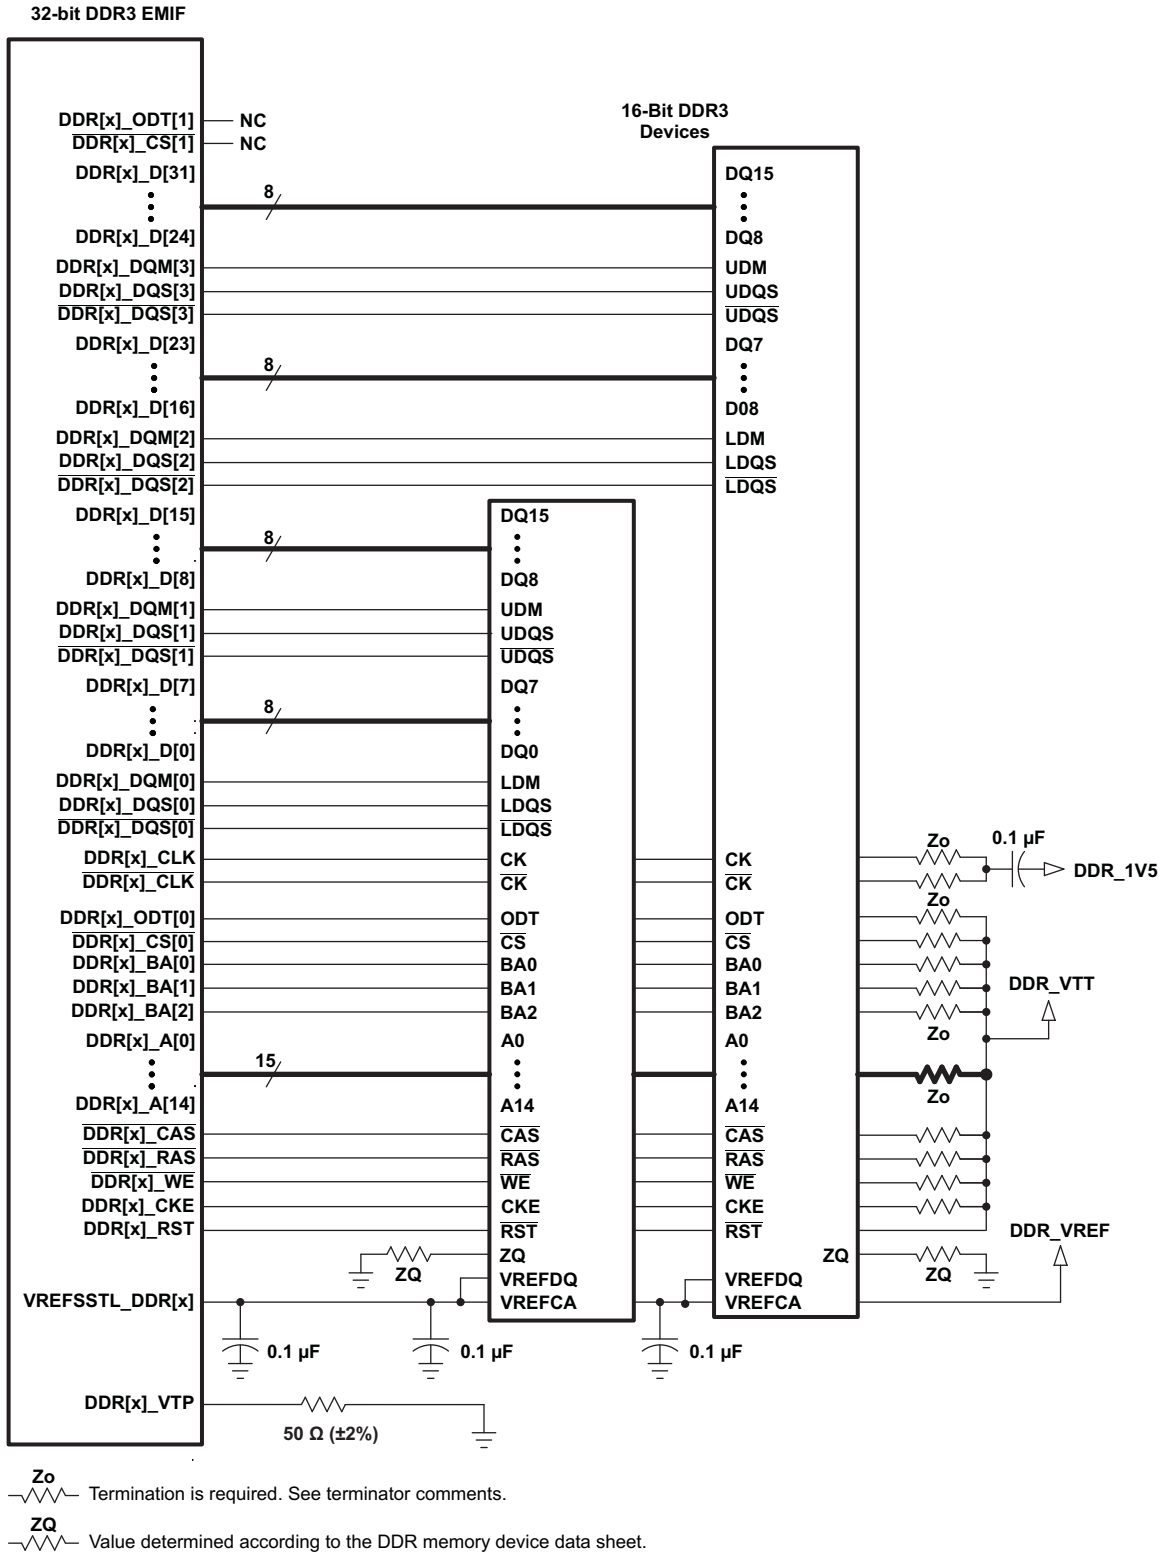
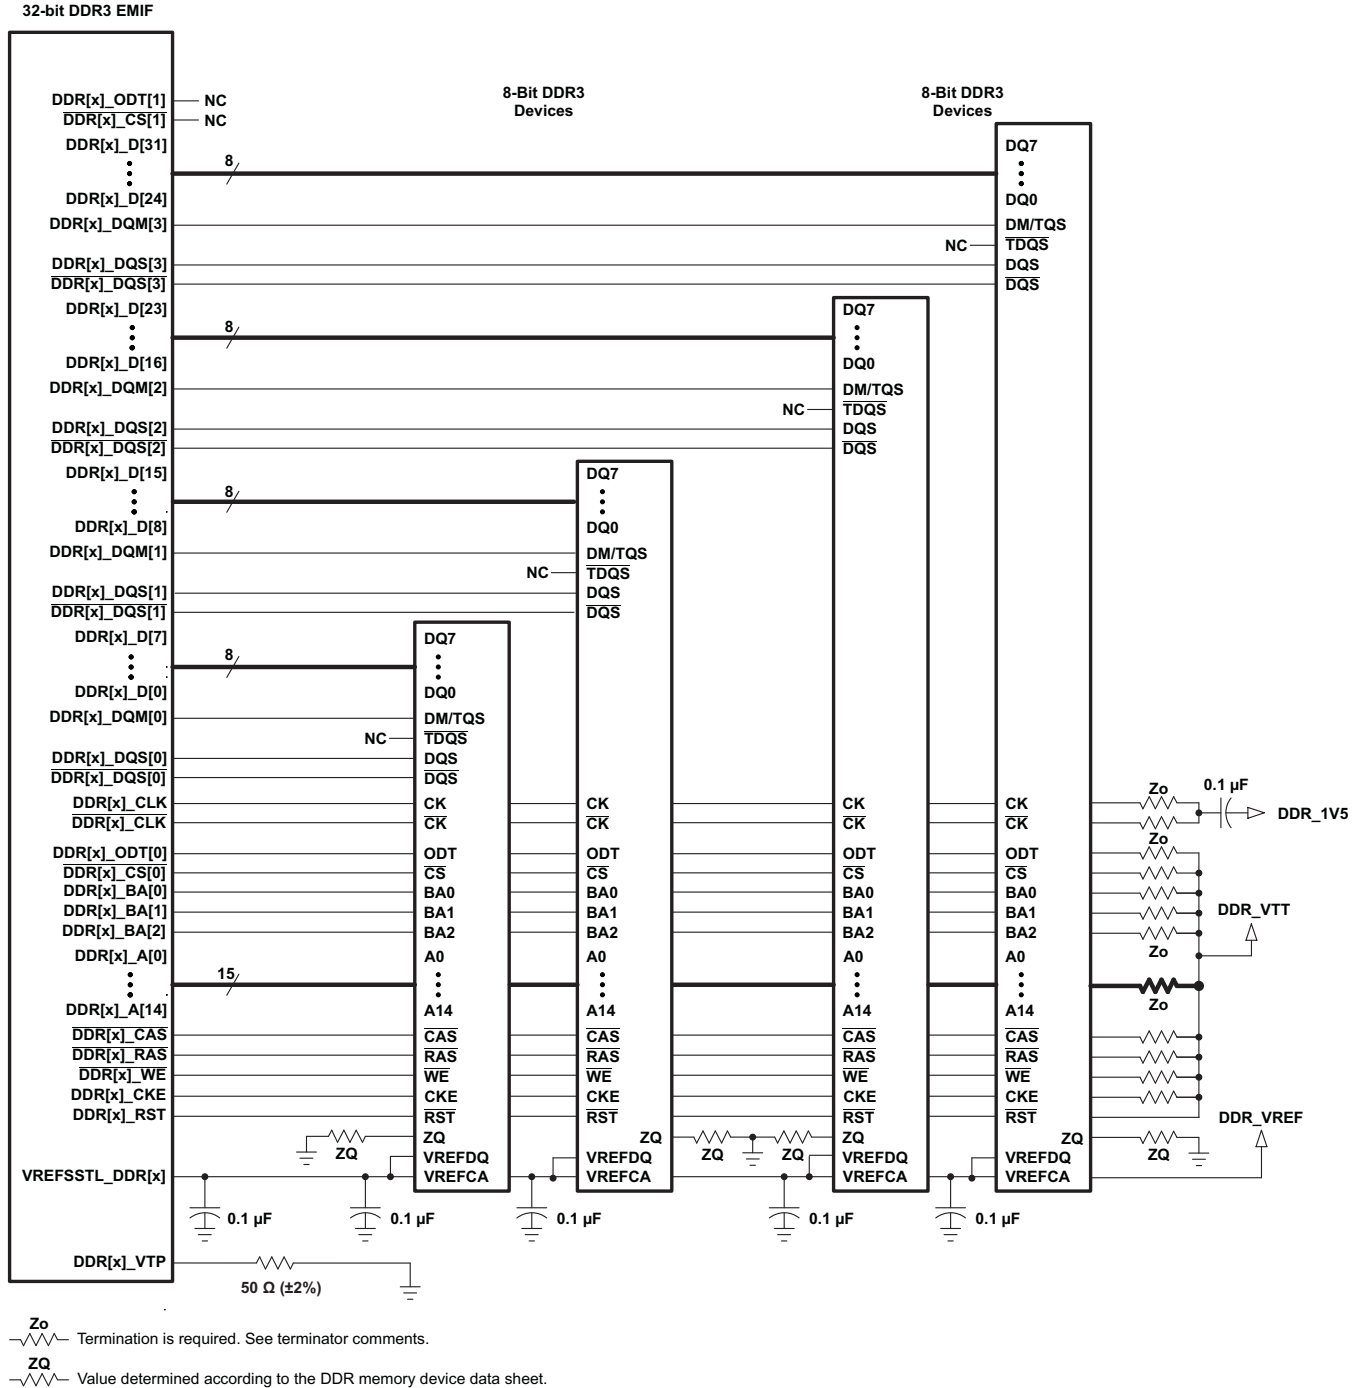

Figure 8-54. 32-Bit, One-Bank DDR3 Interface Schematic Using Two 16-Bit DDR3 Devices
Figure 8-55. 32-Bit, One-Bank DDR3 Interface Schematic Using Four 8-Bit DDR3 Devices
The DDR3 interface schematic varies, depending upon the width of the DDR3 devices used and the width of the bus used (16 or 32 bits). General connectivity is straightforward and very similar. 16-bit DDR devices look like two 8-bit devices. Figure 8-54 and Figure 8-55 show the schematic connections for 32-bit interfaces using x16 devices.
Note that the 16-bit wide interface schematic is practically identical to the 32-bit interface (see Figure 8-54 and Figure 8-55); only the high-word DDR memories are removed and the unused DQS inputs are tied off. The processor `DDR[x]_DQS[2]` and `DDR[x]_DQS[3]` pins should be pulled to the DDR supply via 1-k Ω resistors. Similarly, the `$\overline{\text{DDR[x]_DQS[2]}}$` and `$\overline{\text{DDR[x]_DQS[3]}}$` pins should be pulled to ground via 1-k Ω resistors.
(1) DDR3 speed grade depends on desired clock rate. Data rate is 2x the clock rate. For DDR3-800, the clock rate is 400 MHz.
(2) DDR3 devices with speed grades up to DDR3-1600 are supported; however, max clock rate will still be limited to 400 MHz as stated in *Switching Characteristics Over Recommended Operating Conditions for DDR3 Memory Controller*.
(3) For valid DDR3 device configurations and device counts, see Section 8.13.4.2.4, Figure 8-54, and Figure 8-55.